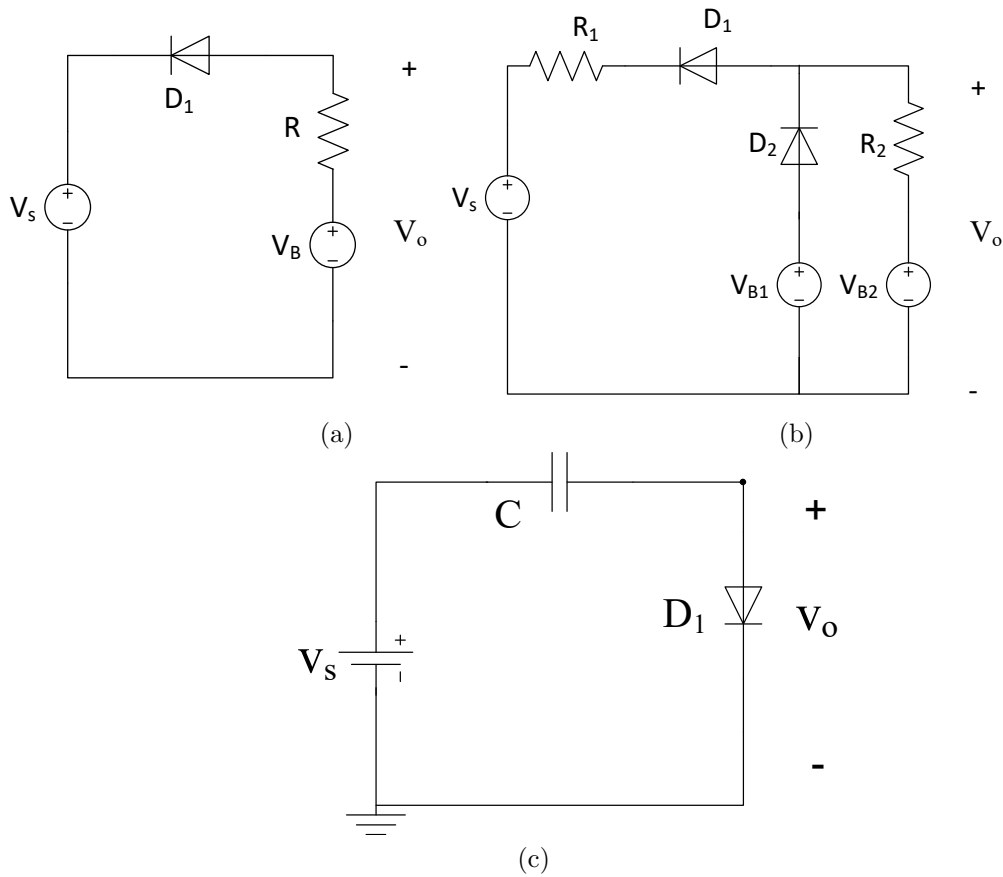

Figure 2.1: Different diode circuits: (a) a clipper circuit with up limit; (b) a clipper circuit with two limits; (c) a clamper circuit.
It is assumed that the built-in voltage of diode is V_γ in Fig. 2.1; for Fig. 2.1(a), $V_B > V_\gamma$; for Fig. 2.1(b), $V_{B2} > V_{B1}$; for Fig. 2.1(c), $V_s = V_P \sin \omega t$, $V_P > V_\gamma$. Please find the relationship between V_o and V_s for each circuit theoretically.
1. Construct the circuit of Fig.2.1(a) on a breadboard using the diode (1N4148), $R = 1k\Omega$ and $V_B = 1V$
1. Construct the circuit of Fig.2.1(b) on a breadboard using the diode (1N4148), $R_1 = 1k\Omega$, $R_2 = 10k\Omega$ and $V_{B1} = 5V$, $V_{B2} = 8V$.
1. Construct the circuit of Fig.2.1(c) on a breadboard using the diode (1N4148), $C=100$ nF.